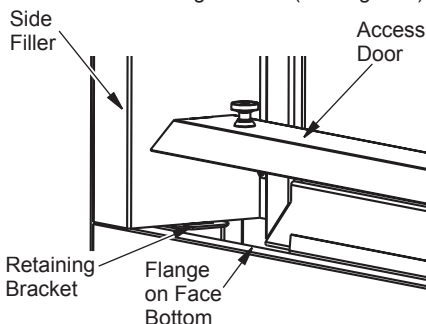

Figure 6 - Access Door for See-Thru Applications
1. Place access door into rectangular opening in front of the glass door with the slanted side facing forward. The slanted surface will slide underneath the flange of the bottom face. Insert tabs on side of access door into slots on retaining brackets (See Figure 6).